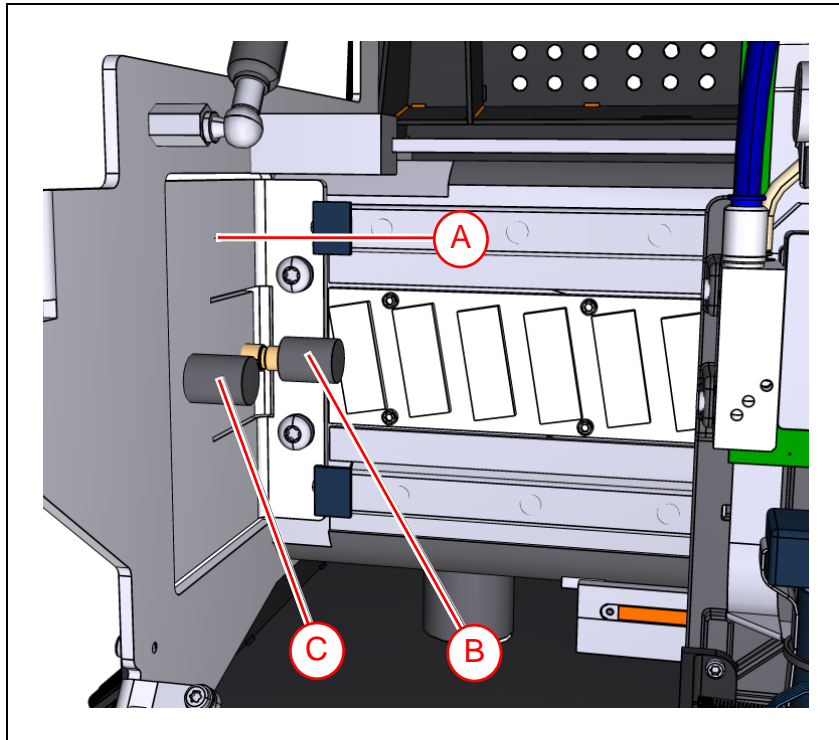

Figure 5-11. End stop bumpers.
4. Move the X wagon by hand to the end stop plate ('A' in Figure 5-11) and the end stop bumpers ('B') and ('C').